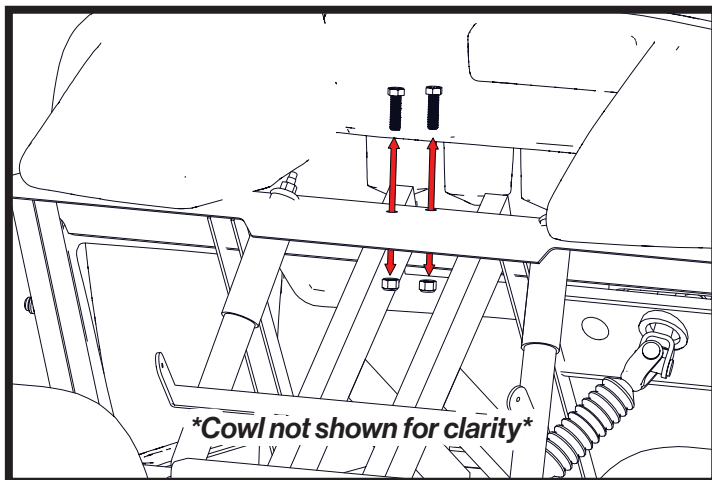

Fig. 5
Remove the two (2) bolts that hold the top of the front bumper bracket to the vehicle dash frame as shown in Fig. 5. These are located up underneath the cowl.